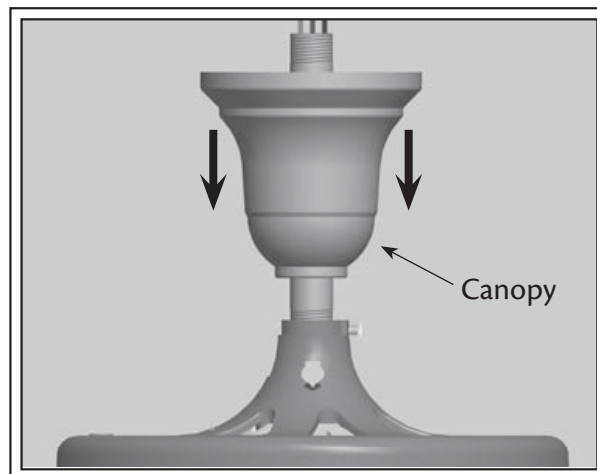

Fig. 5
4. Slide the canopy down over the hanging pipe (see Fig. 5).